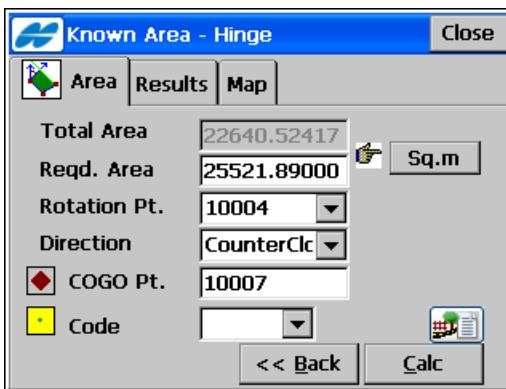

Figure 11-41. Known Area Hinge – Area Tab 2
- **Next** – opens the second screen of the *Area* tab (Figure 11-41 on page 11-34).